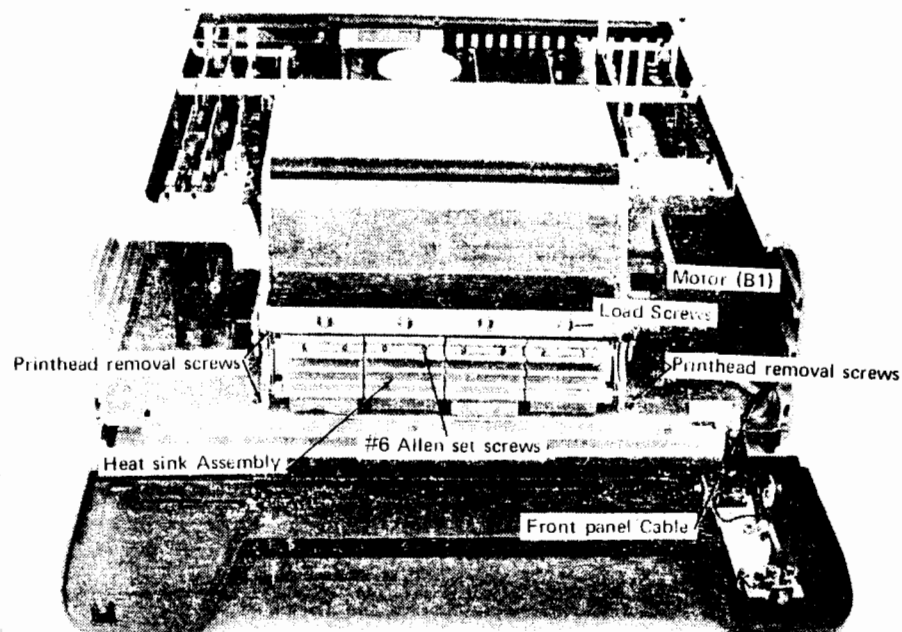

Figure 4-4. Removing the Front Panel
- C. Remove the two screws in the bottom-front and top-front of the printhead assembly (see Figure 4-4). Then, lift the printhead assembly upward until the four printhead cables are extended. Use a small screwdriver (e.g., a #1010) to disconnect the four connectors from the A6 assembly. The screwdriver should be inserted into the slot in the front of each connector and gently turned until the connectors are forced apart.
- E. Loosen the two associated #6 set screws (see Figure 4-4).
2. Loosen the eight load screws (see Figure 4-4) approximately three turns.